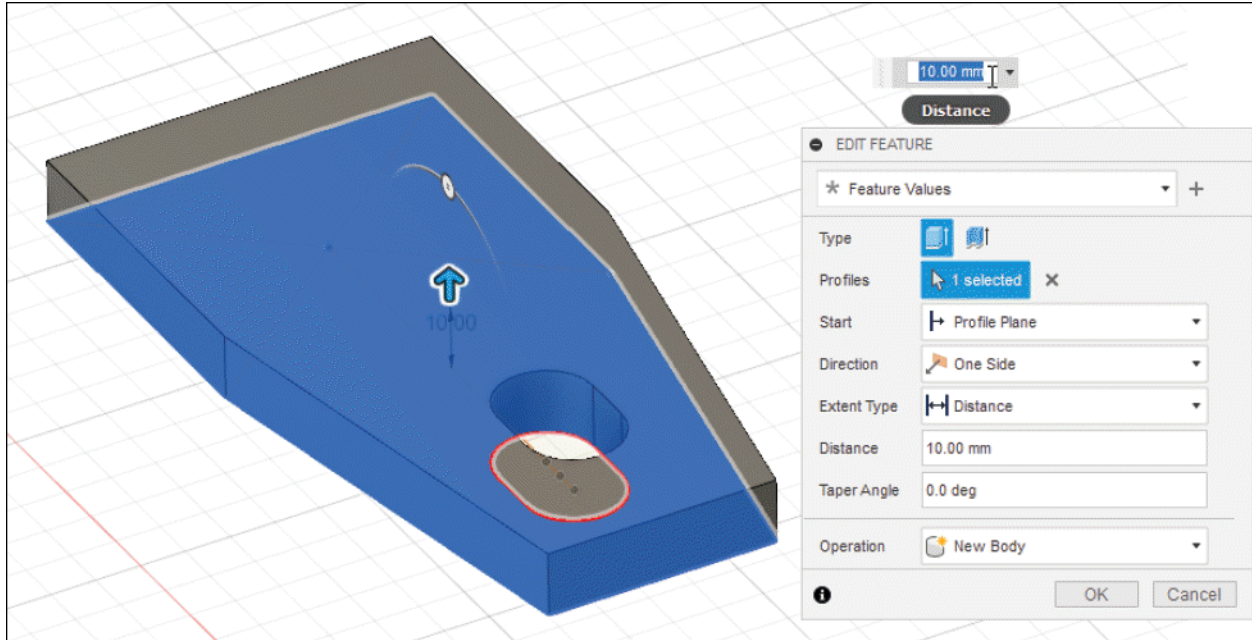

Figure-16. Preview of extrusion
- Specify **10** as height of extrusion in **Distance** edit box of **EXTRUDE** dialog box; refer to Figure-16. (Rotate the model to get clear view.)